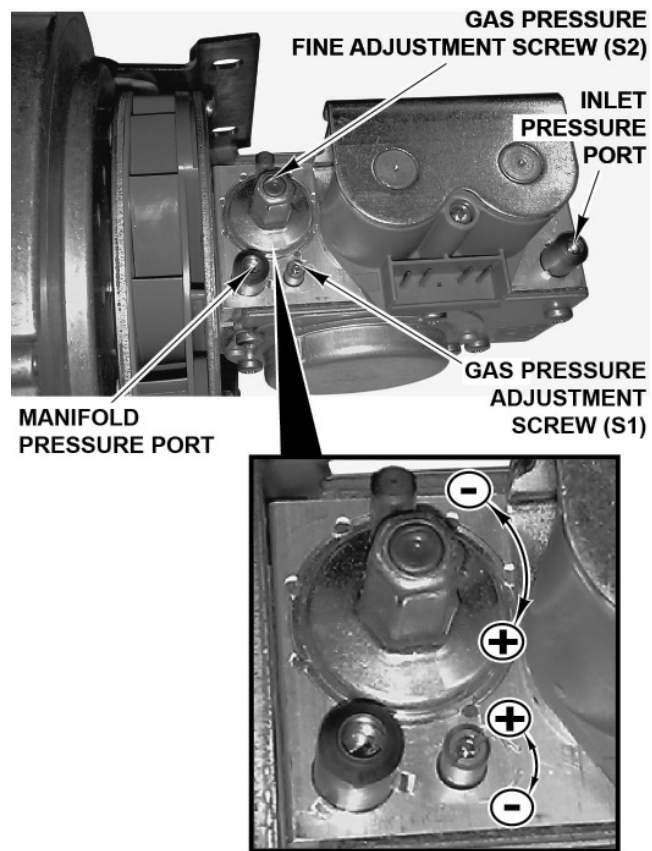

Fig. 1
3. Turn S1 screw located right of manifold pressure port (Fig. 1) clockwise to completely close position. Then turn counter clockwise 10 turns.
3. Turn S1 screw located right of manifold pressure port (Fig. 1) clockwise to completely close position. Then turn counter clockwise 16 turns.
3. Turn S2 screw (Fig. 1) (using 5/64" Allen wrench), ½ turn clock wise
5. Try five (5) times igniting the burner, if burner fails to ignite repeat step 3.